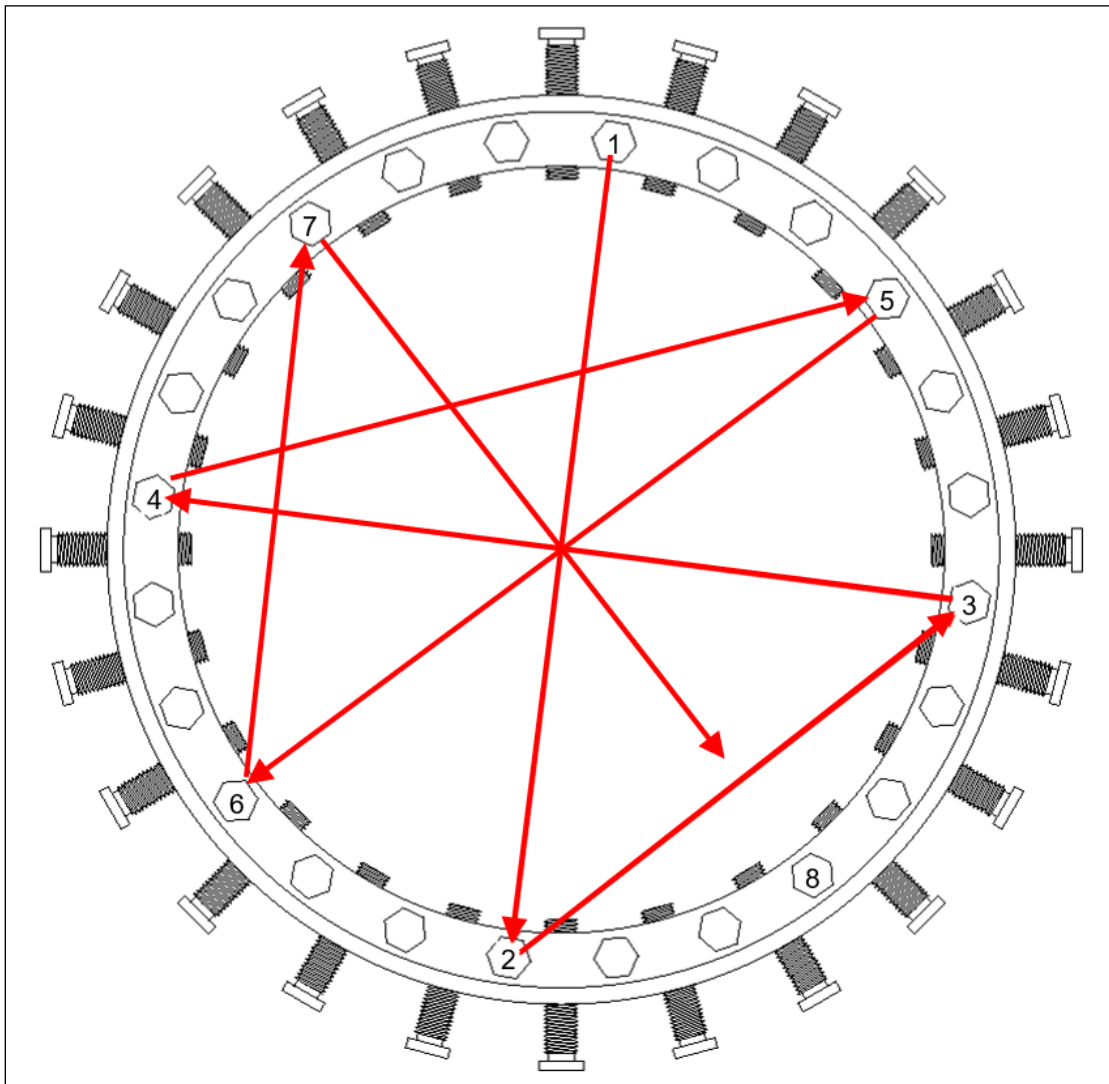
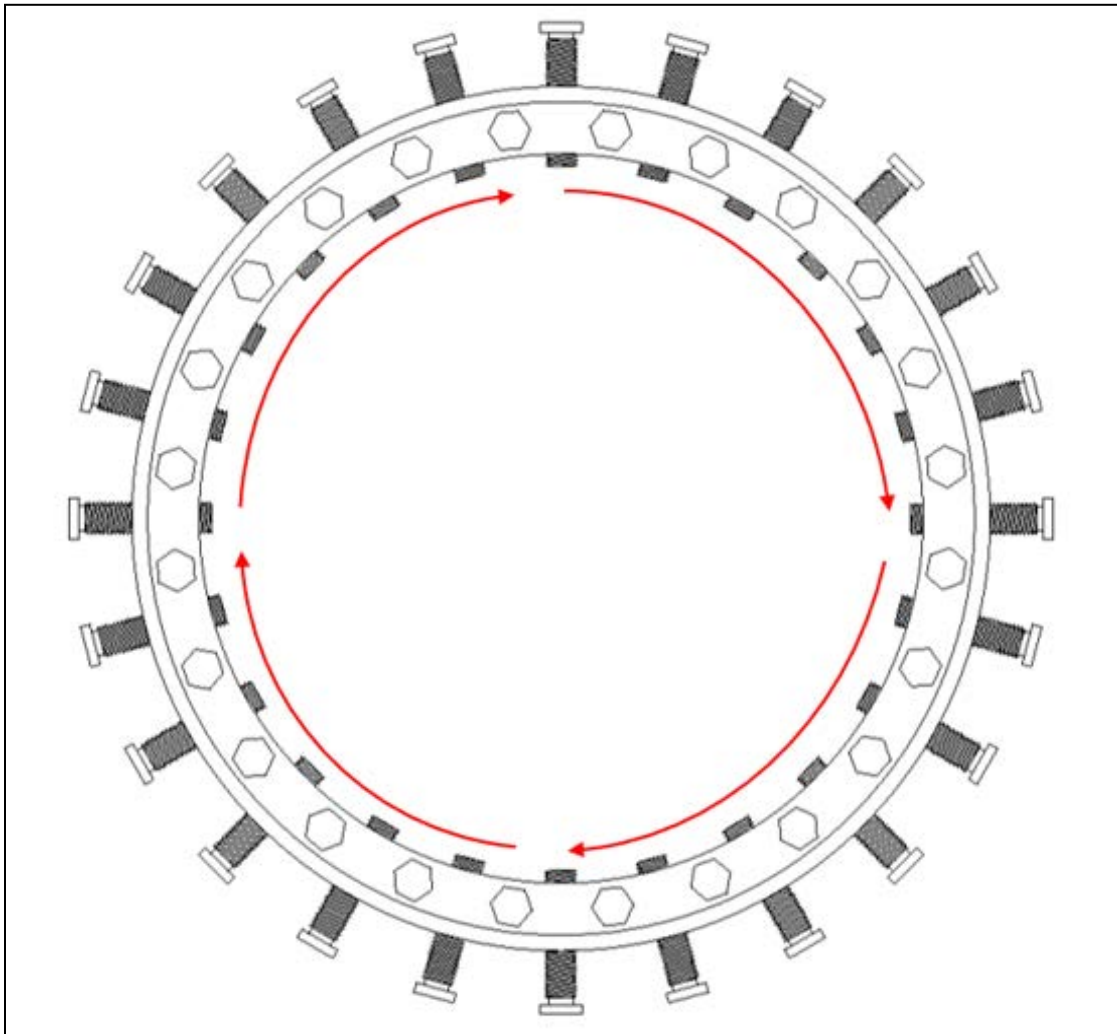

Figure 5
Figure 6
9. Torque the thrust screws one at a time (torque values in Table 5) in a repeated crisscrossed star sequence that matches Figure 5. The first time through the sequence, tighten the screws to 25% of the minimum torque. The second time through, tighten the screws to 50% torque. The third time through, tighten the screws to 100% torque. Then, follow a circular tightening sequence that matches Figure 6, at 100% torque, until the thrust screws are unable to continue spinning. Once this is achieved, the next set of thrust screws on the other side of the PLIDCO Weld+Ends can be tightened using this same procedure.